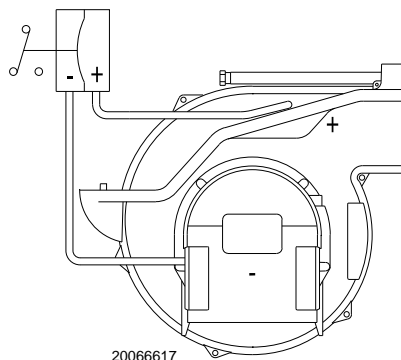

Fig. 49
- Adjust the air pressure switch to the zero position of the scale (Fig. 49).
The air pressure switch is connected in differential (Fig. 49) and is activated by both the negative pressure of the air intake and the air pressure from the fan.